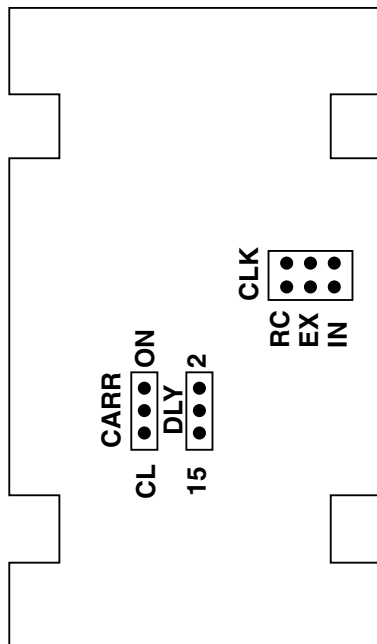

Fig. 3-1. Strapping Diagram.
2. Strap the modem according to the strapping diagram (Fig. 3-1) and the strap-selection table (Table 3-1). Explanations of the jumpers are also written on the printed circuit board.